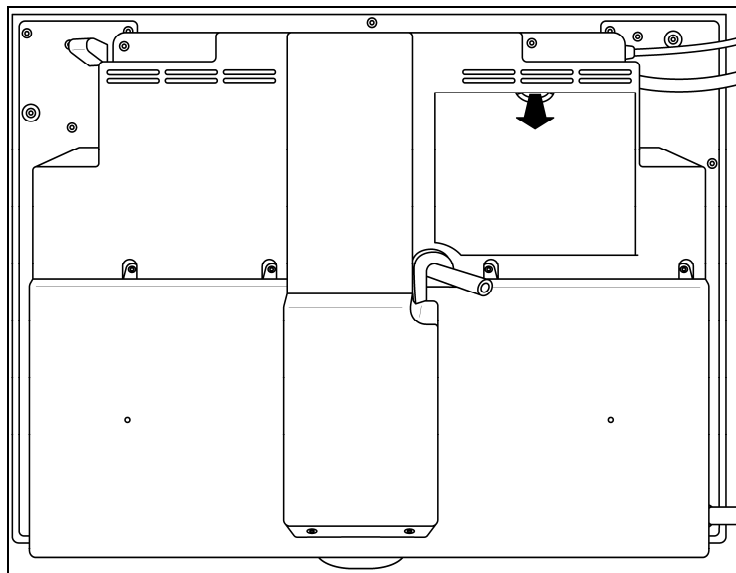

Figure 001-47: Service Cover
3. Take off the service cover (arrow, Figure 001-47).